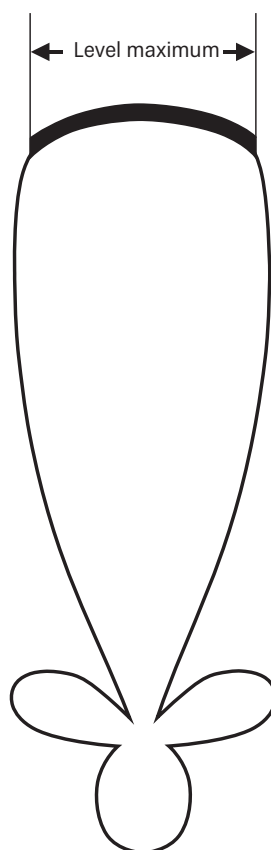

Fig. 7: Antenna lobe
2. Tune to wanted satellite (see enclosed azimuth/elevations table) by turning the antenna around the azimuth axle until max. signal level is obtained (if a Kathrein signal meter MSK... is used), or until best signal strength/quality is reached (see Fig. 7 and „Level optimization“).
As the antenna lobe (Fig. 7) in the maximum range is only slightly curved, an excellent signal strength/quality can be expected when it is aligned to this range. However, it may also be that the antenna at the left or right is “only just” aligned to this excellent reception range. As soon as the antenna stanchion experiences any vibration the supposed excellent signal strength/quality can drop off at the steep edge of the lobe. To avoid this, the reception position should be set to the middle of the maximum level.